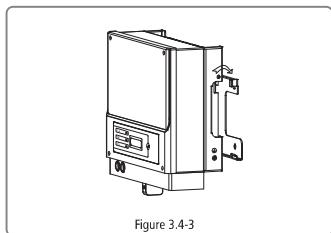

Figure 3.4-3
- Install the hybrid converter on the wall-mounted bracket. Referred to Figure 3.4-3, 3.4-4.